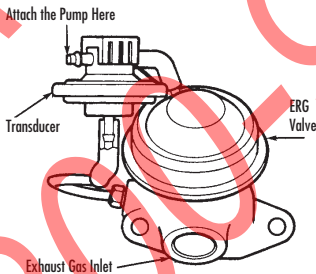

FIGURE 11: TEST THE VACUUM SOURCE FOR THE BPV WITH YOUR PUMP
- 1) Remove the air cleaner and plug the intake manifold fitting. Start the engine and bring it to normal operating temperature. Position the fast-idle cam follower on the second step of the fast-idle cam (to obtain about 1500 RPM), and then note engine speed on a tachometer. Use the pump to check the source vacuum at an intake manifold port (FIGURE 11). Note this reading.